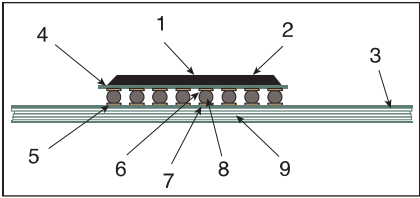

Figure 2 Main Critical Temperatures
- 7. Perform TTP re-flow cycle defined by procedural analysis. (Figure 2)